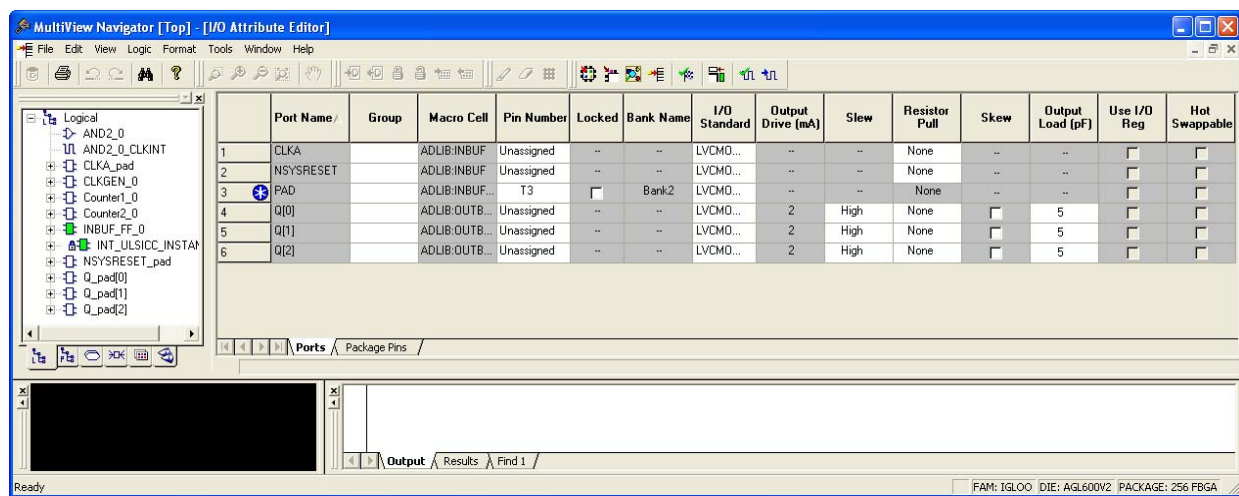

Figure 1-34 • I/O Editor in MultiView Navigator
- Click the **I/O Attribute Editor** button in the Designer GUI to open the I/O Editor. The I/O Attribute Editor opens in the MultiView Navigator (Figure 1-34).